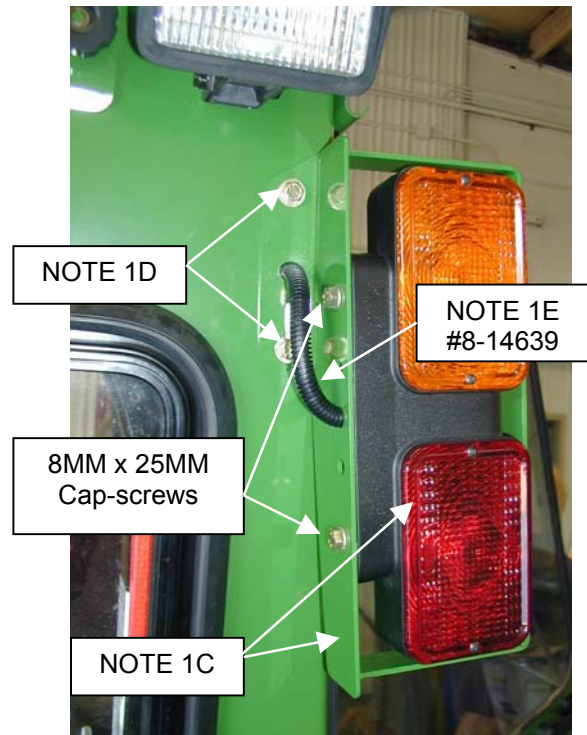

Figure 1C
- C. Remove rear warning lights from roll bar. Attach warning lights to cab using (1) LH #7-15662 and (1) RH #7-15661 dual light mounting brackets. Secure lights to bracket with; (See Figure 1C).
- (4) 8mm x 25mm cap-screws
- (4) 1/4-20unc nyloc nuts
- (8) 1/4" flat washers
- E. Install Dual Light Wire Extension Kit #8-14639 to route wires into cab and down each side of the interior cab wall. See Figure 1C and 1E.